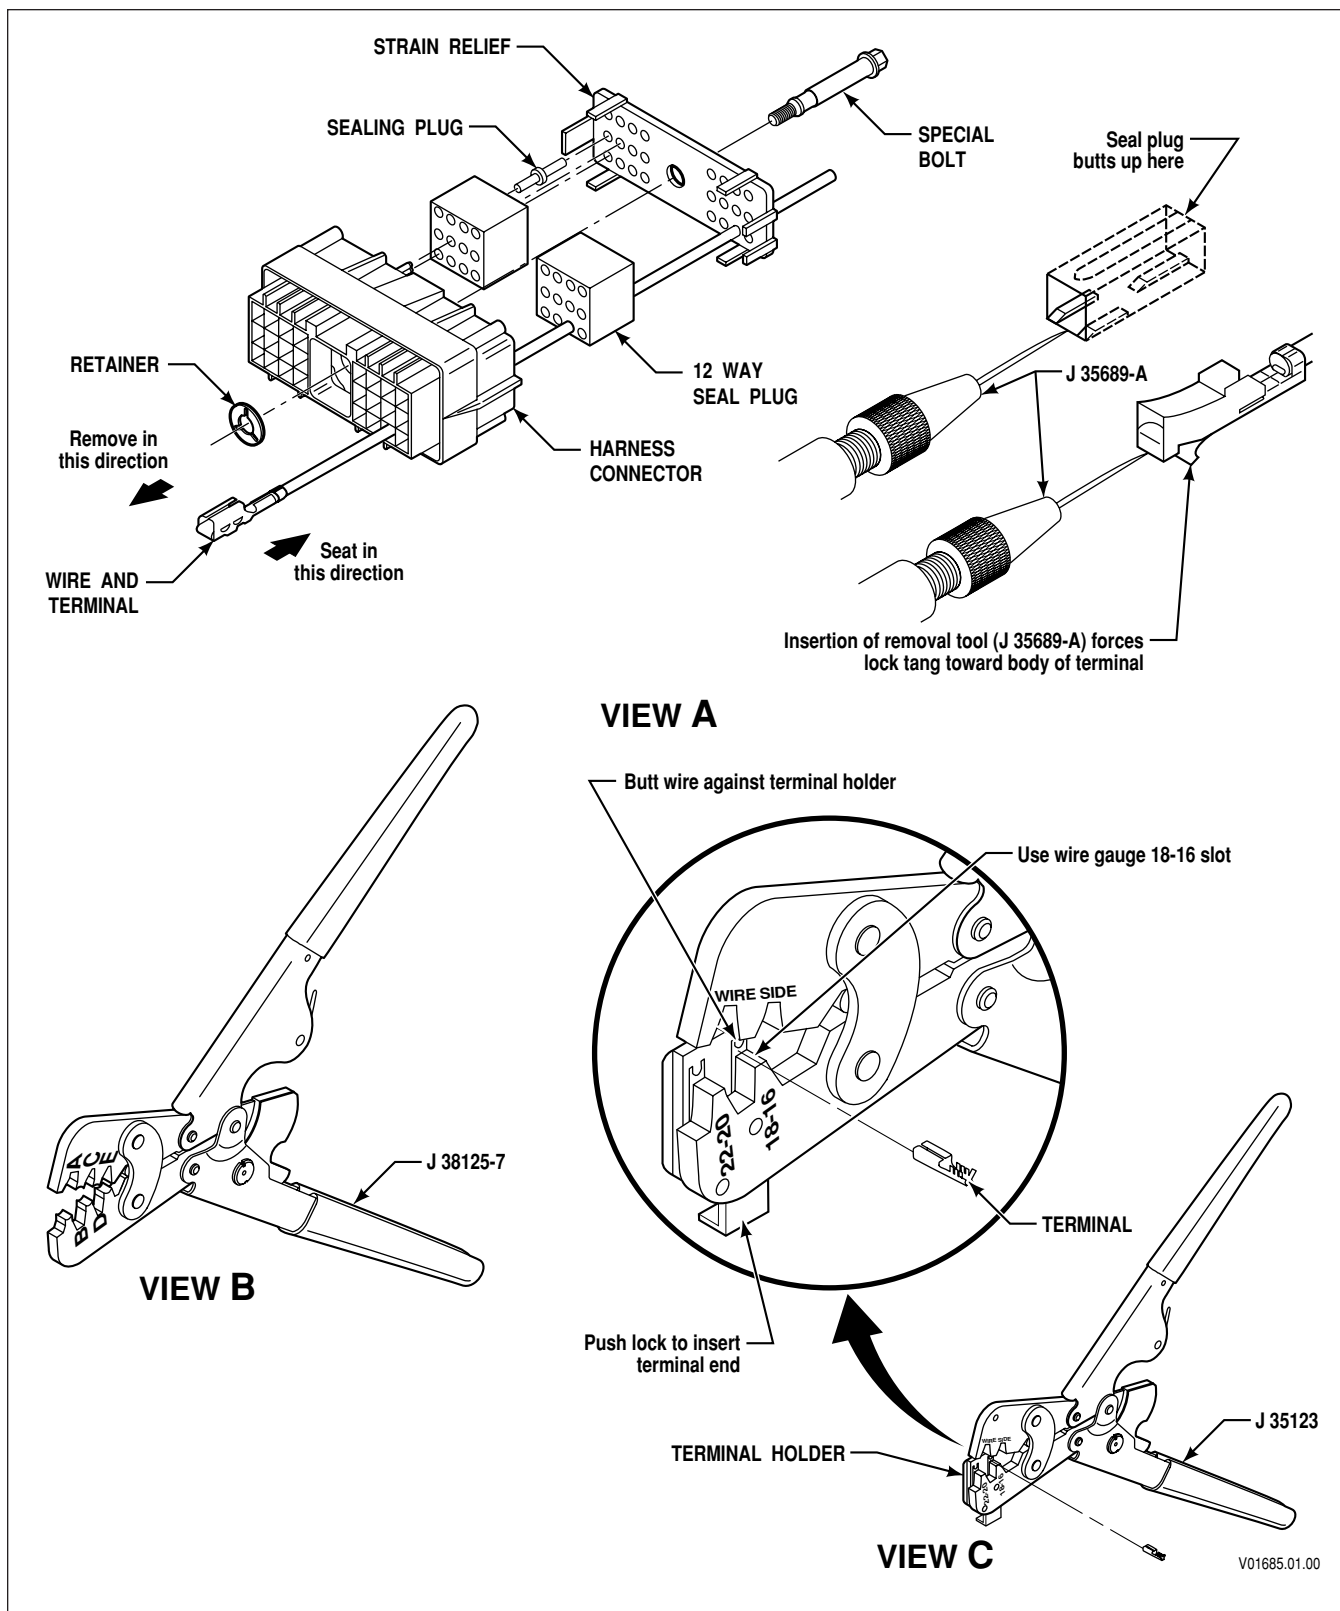

Figure E-6. Delphi-Packard Metri-Pack 150 Series connectors Pull-To-Seat
1. Insert needle end of terminal remover J 35689-A into the small notch between the connector and the terminal to be removed (Figure E-6, View A). Push the lock tang toward the terminal.
3. Place core crimp portion of terminal on bed of anvil “E” and squeeze crimper enough to keep terminal from dropping (Figure E-6, View B).
2. Insert remover tool in front side of connector to release locktab and push terminal out front of connector. Pull the terminal and wire out the front of the connector to complete Steps (3) through (7).
3. Push open the terminal holder on the crimper tool J 35123 and insert a terminal into the opening marked 18-16 (Figure E-6, View C) so that the crimp ends point up. Release the terminal holder.